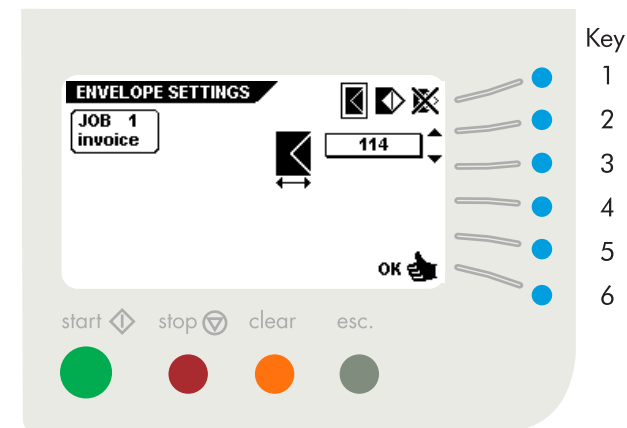

Fig. 36
When the "envelope settings" menu is selected and key 3 is pressed in the "job settings" menu, the display shows the screen as shown in fig. 36. In this menu, the following choices are available by pressing key 1:
When "envelope with closed flap" is selected the display shows the screen as shown in fig. 36. The following choices are available: